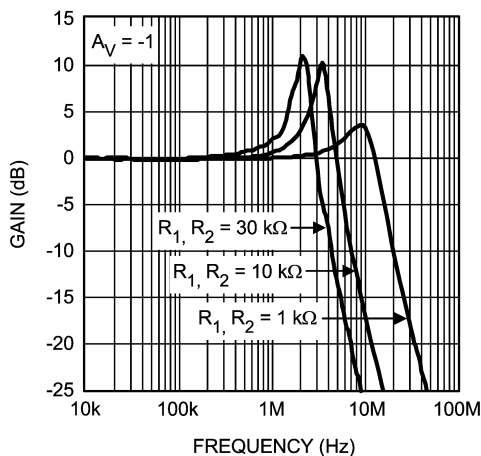

FIGURE 3. Gain Peaking Caused by Large R_1 , R_2
Equation (2) shows that as the values of R_1 and R_2 are increased, the magnitude of the poles, and hence the bandwidth of the amplifier, is reduced. This theory is verified by using different values of R_1 and R_2 in the circuit shown in Figure 1 and by comparing their frequency responses. In Figure 3 the frequency responses for three different values of R_1 and R_2 are shown. When both R_1 and R_2 are 1 kΩ, the response is flattest and widest; whereas, it narrows and peaks significantly when both their values are changed to 10 kΩ or 30 kΩ. So it is advisable to use lower values of R_1 and R_2 to obtain a wider and flatter response. Lower resistances also help in high sensitivity circuits since they add less noise.